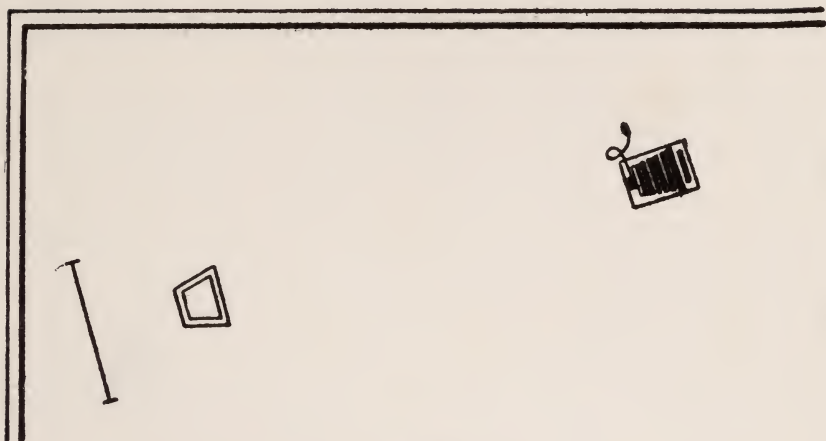

Fig. 13
**Portraits Outdoors.**— When one attempts to make portraits outside of the house, the ordinary snapshot methods often suffice, but if a more formal pose is desired, a corner formed between the main portion of the house and an ell is most suitable. Generally a background will be needed. Two arrangements are suggested in Figs. 13 and 14, the choice depending on the direction from which the light is coming. In the shade, with good sunlight elsewhere, it will usually be found that a position close to the wall of the house gives a lighting free from the objectionable flatness of most outdoor illumination of the face. There is, of course, no reason why the home portraitist should not be able to use direct sunlight on the face if the model can refrain from squinting, and double-coated ortho plates are used; but most pictures of people in sunlight are too harsh and unpleasant to be attempted without a thorough understanding of the problems involved.